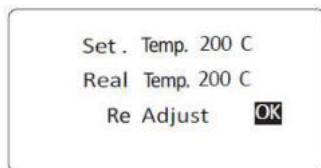

Fig.3
6.1 In the function setting menu, move cursor to the “Cal. Status.” mode then press the knob. Move cursor to the “Real Temp” , input the real temperature, move cursor to the “OK” (see fig 3) then press knob confirm it. Press knob to the next menu, choose the “Save & Exit” save the temperature and exit menu.